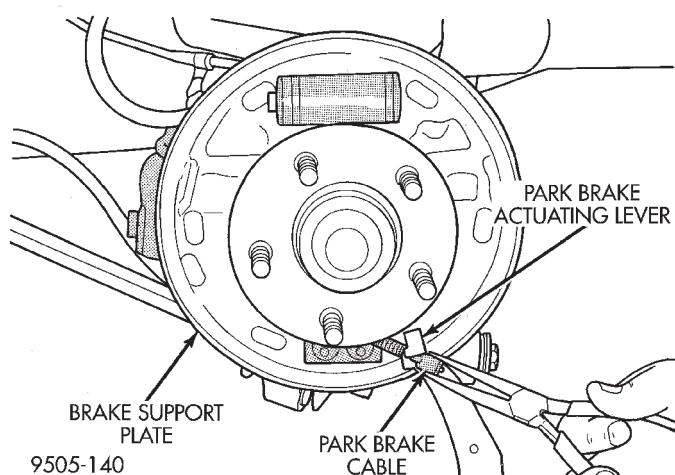

Fig. 69 Park Brake Cable To Actuator Lever Attachment
(13) Remove the park brake cable from the park brake actuating lever, (Fig. 69) attached to the trailing brake shoe assembly. Do not attempt to remove actuating lever from brake shoe assembly.
(2) Install the park brake cable on the park brake actuating lever of the trailing brake shoe (Fig. 69).